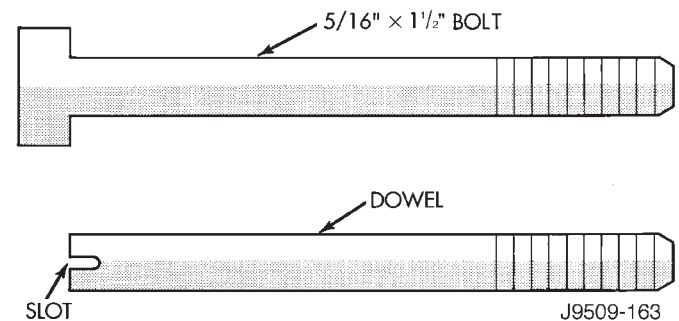

Fig. 37 Fabrication of Alignment Dowels
- (1) Fabricate 4 alignment dowels from 5/16 x 1 1/2 inch bolts. Cut the head off the bolts and cut a slot into the top of the dowel. This will allow easier installation and removal with a screwdriver (Fig. 37).